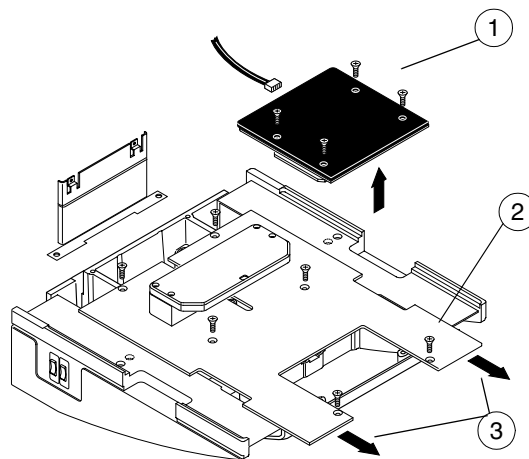

Figure H.7
- a) Unscrew the AEC sensor assembly screws (4 pcs) (Fig. H.7, 1).
- b) Unscrew the table cover screws (6 pcs) (Fig. H.7, 2).
- d) Lift up the table cover slightly and pull it from the table casting (Fig. H.7, 3).